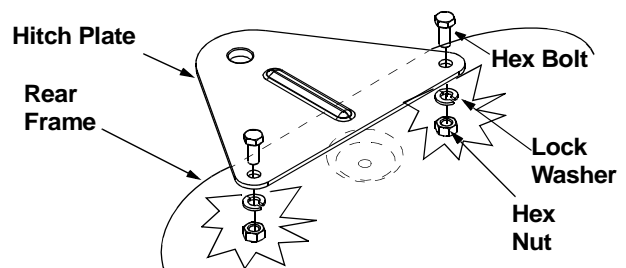

Figure 7
- Loosen the nut attaching the hitch plate to the frame and swing the plate outward. Make sure that the wider side of the hitch plate aligns with the rear frame as shown in Figure 7 .
- Re-insert the hex bolt through the hitch plate and the rear frame. Secure with the lock washer and hex nut removed earlier. See Figure 7 . Tighten both sets of hardware.